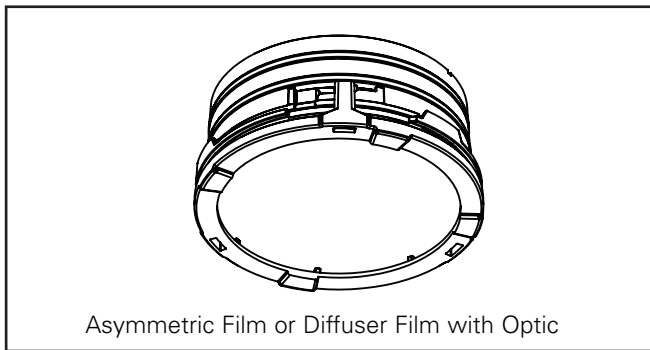

Figure 20
8. To adjust the orientation of the asymmetric film, hold the label tab and rotate it to required position. (Figure 20)